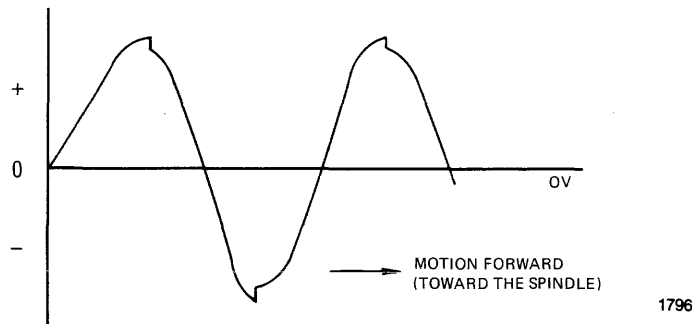

Figure 6-5. X + 0 Analog Signal Added to X + 90 Digital Signal
- (2) Readjust the sensitivity of Channel 2 to 5v per division.
- (3) Set Channel Select switch to Add mode (Channel 1 plus Channel 2).
- (4) Sync internally off of Channel 1 on the positive portion of the analog signal.
- (5) Manually move the positioner carriage back and forth, at a constant rate, through its full stroke.
- (6) Observe that the X + 90 digital signal, added to the X + 0 analog signal, appears on the positive and negative peak of the sine wave as illustrated in Figure 6-5.
- (7) While moving the positioner carriage forward (toward the spindle) verify that the added digital signal (X + 90) has its trailing edge on the positive peak of the sine wave (see Figure 6-5).
- (8) If the trailing edge of the digital signal is not on the positive peak of the sine wave, or the oscilloscope pattern does not correlate with Figure 6-5, perform the adjustment procedure detailed in Paragraph 6.8.3.3.
- (1) Loosen the horizontal hex-head screw on the thermal block. This will loosen the receiver post upon which the reticle is mounted.
- (2) Check that the reticle arm is approximately at right angles to the scale.
- (3) Manually move the positioner carriage back and forth through its full stroke, while monitoring the waveform at TP19 and TP21. At the same time (using a wide-edge screwdriver in the grooves provided at the top of the receiver post) rotate the reticle CW or CCW until the waveform of Figure 6-5 is achieved. Observe that this waveform will occur at more than one angular position of the reticle. Set the reticle at the position which results in the waveform as shown in Figure 6-5 and with maximum amplitude.
- (4) Partially tighten the hex-head screw, loosened in Step (1), to the point where self-rotation of the receiver is inhibited.